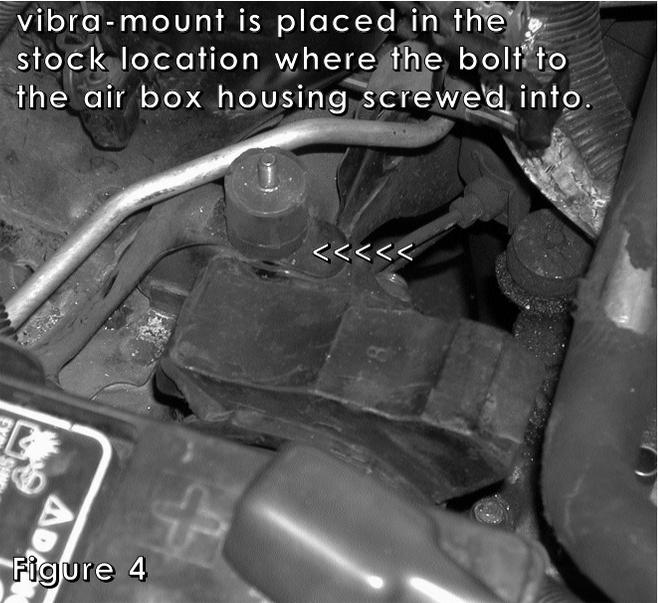

Figure 4
- 5- Screw the vibra-mount in place in the threaded hole where the stock air box was as seen in figure 4.**